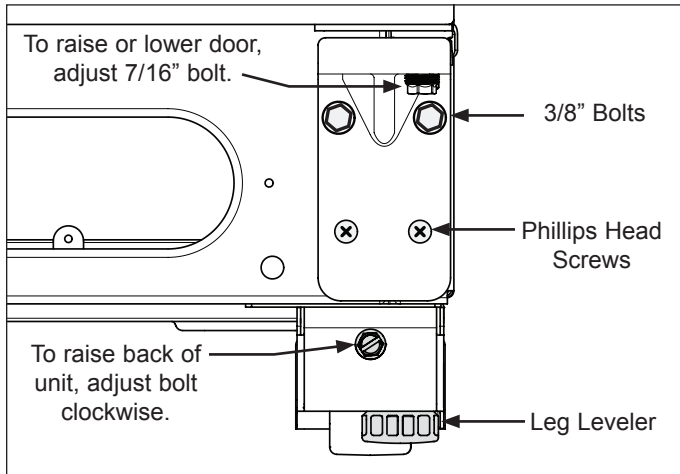

Figure 16.
12. Trim Kit Leveling (See Figure 16) (Single and Dual Installations)
13. Hinge Adjustment (See Figure 16) (Single and Dual Installations)